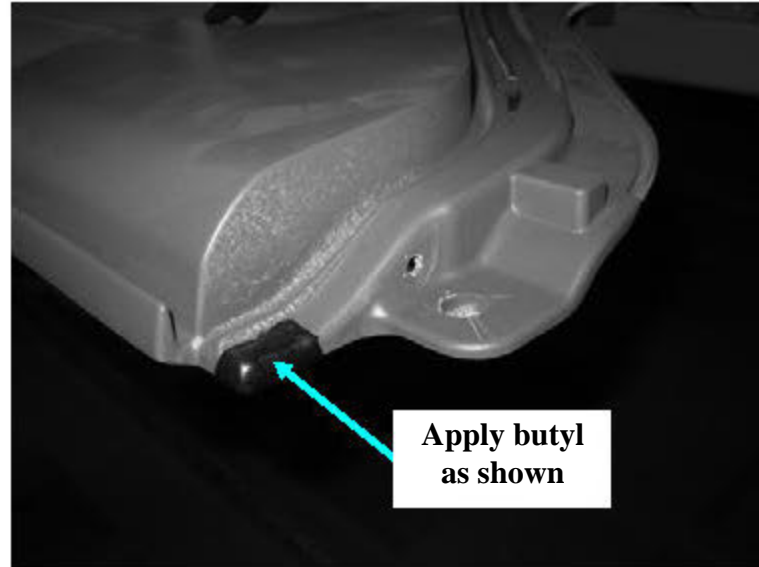

Figure 36
- Pre-apply butyl (68027813AA) on hard top prior to installing the seal (Figure 36)
- It is critical that the end molds are installed correctly and sufficient pressure is applied to wet out the butyl/tape (Figure 36)